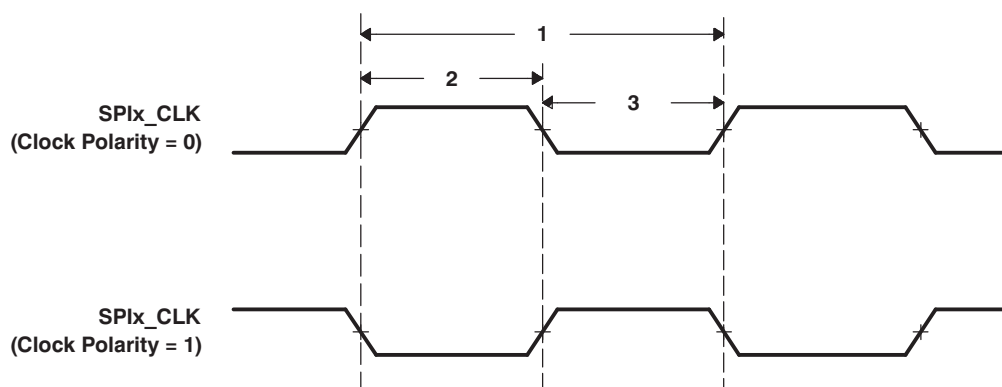

**Figure 5-36. SPI\_CLK Timing**
**Table 5-28. Timing Requirements for SPI (All Modes)(1) (see Figure 5-36)**